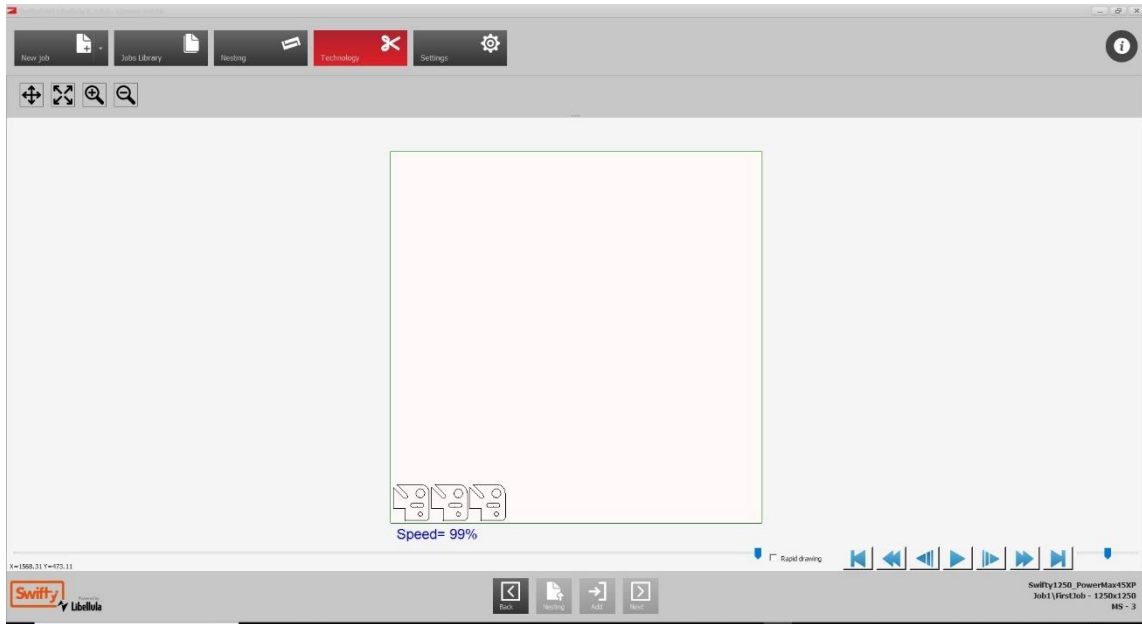

Fig 59 Cutting simulation screen
3.1 A simulation of the cut can be previewed by clicking the 'Next' button on the G-code Preview screen (Fig 59). Use the controls in the bottom right hand corner to simulate the cut.